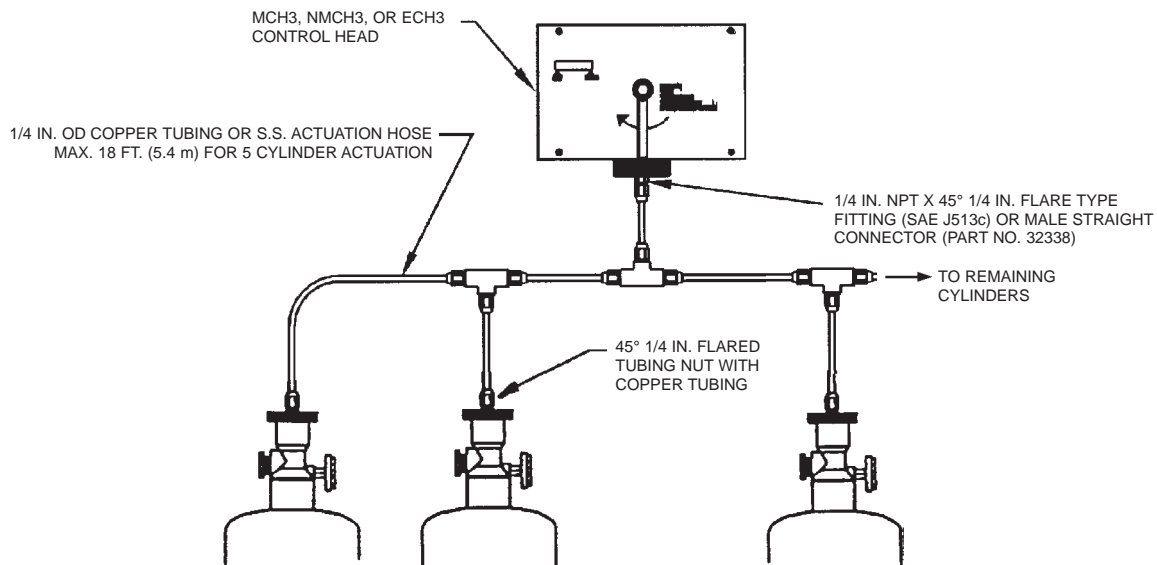

Figure 4-3. Multiple Cylinder Actuation Using Model MCH3/ECH3/NMCH3 Control Head.
► must be screwed into the base of the control head actuator. Pneumatic tubing or stainless steel actuation hose is then used to connect the control head to the valve cap assembly of each agent cylinder valve. See **Figure 4-3**.